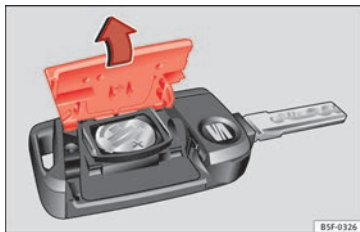

Fig. 116 Vehicle key: opening the battery compartment.
- Remove the cover from the back of the vehicle key **»** **Fig. 116** in the direction of the arrow **»** ①.
- Fit the cover as shown **»** **Fig. 116**, pressing it onto the vehicle key casing in the opposite direction to that shown by the arrow until it clicks into place.